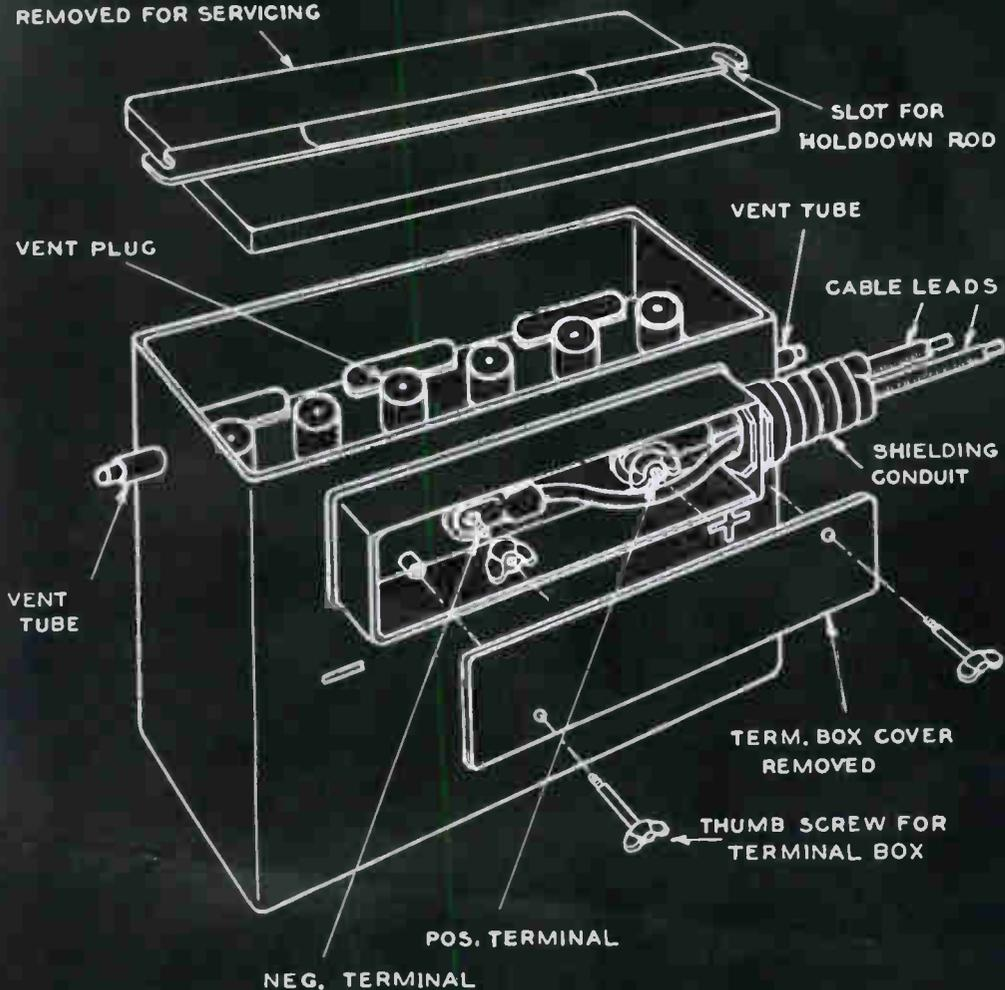

Fig. 6—Illustration of Typical Exide Aircraft Shielded Battery,
- a. Cable connections in shielding conduit are to be made to the positive and negative terminals as shown in Fig. 6. The body of the terminal box is reversible so that the opening in one end for the cables can be placed most conveniently for the approach of the cables.
- e.* After seating the cover, the hold-down rod, one at each end, should be located in the cover slot provided, Fig. 6. Make a snug fit—not necessarily the tightest fit. Avoid tightness